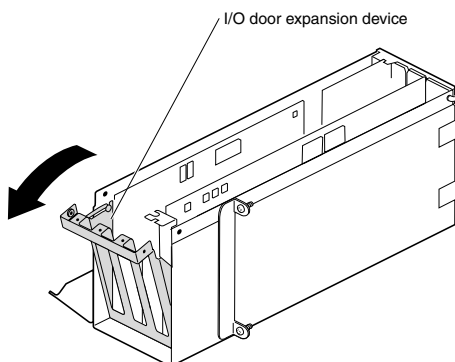

Figure 8-28 PCI Module I/O Expansion Door
- 8.) The PCI card resides in the slot closest to the *bottom*; its PCI slot 1(BIT3). Unscrew the board from the front panel. You can also expand the I/O door. See Figure 8-28 . The I/O door expands open if necessary.